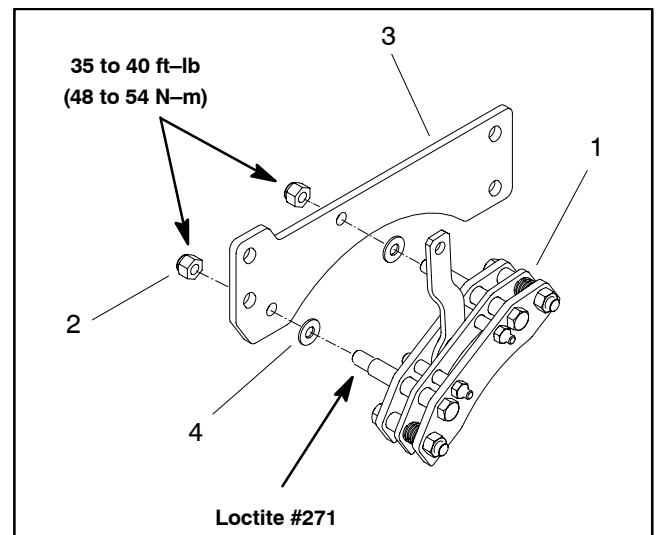

Figure 5
5. Remove four (4) cap screws and flange nuts that secure brake support to frame.
7. Remove two (2) lock nuts that secure parking brake assembly to brake support. Remove brake from support. Locate and retrieve two (2) hardened washers from between parking brake and brake support (Figs. 5 and 6).
2. Place two (2) hardened washers on brake mounting screws (Figs. 5 and 6).